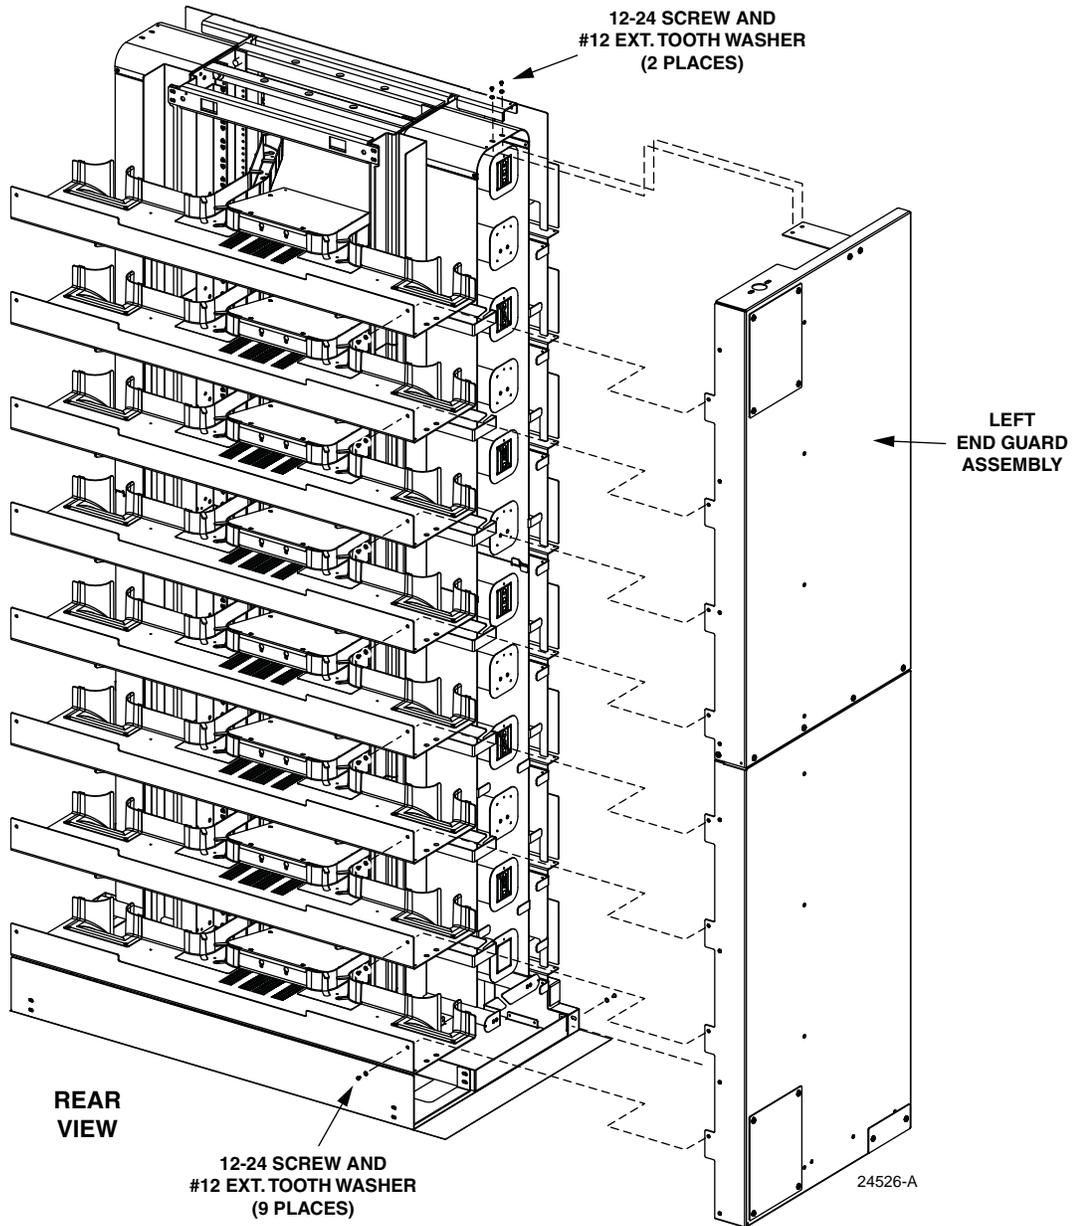

Figure 20. Mounting End Guard
9. Start #12 screws with washers into the front and rear guard boxes, see Figure 20. Make certain each end guard mounting hole has a screw with washer in it.